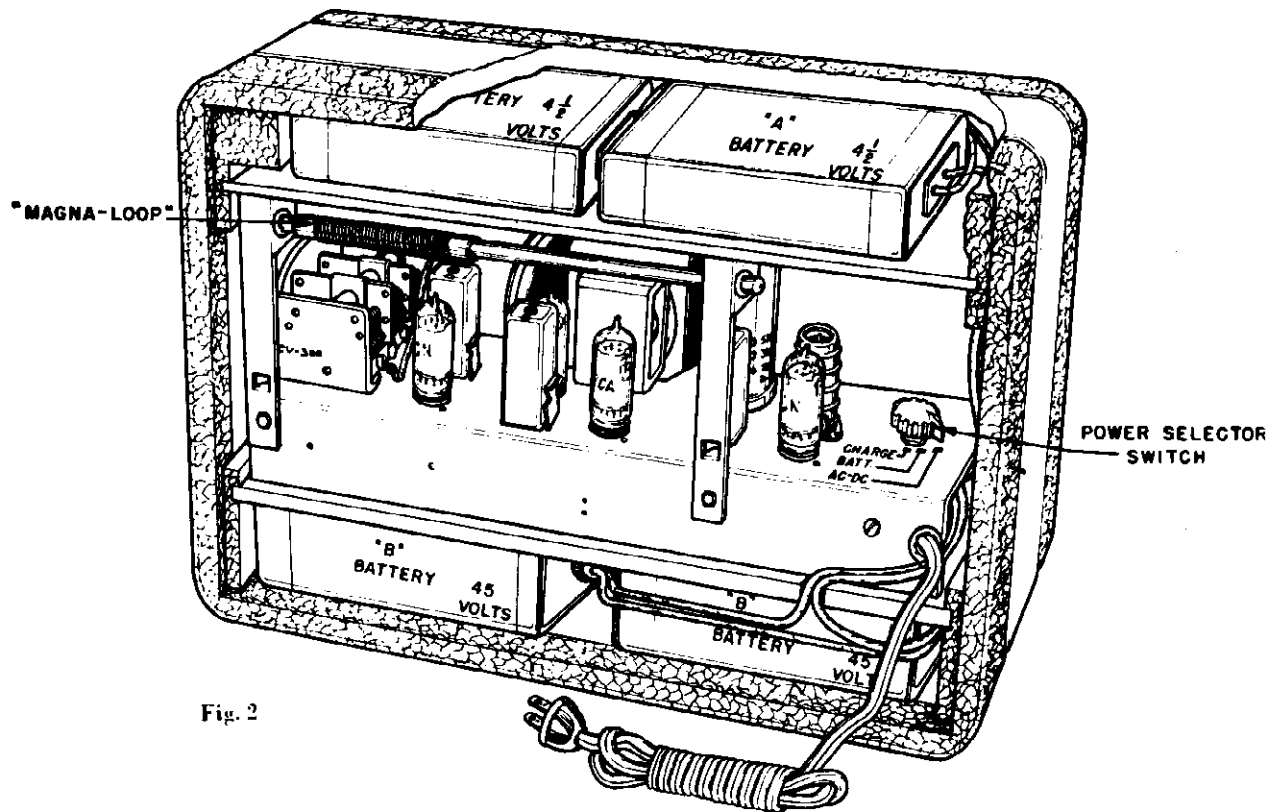

Fig. 2
**POWER SELECTOR SWITCH** (See Fig. 2)
3. Install batteries and insert cable plugs as shown in Fig. 2.